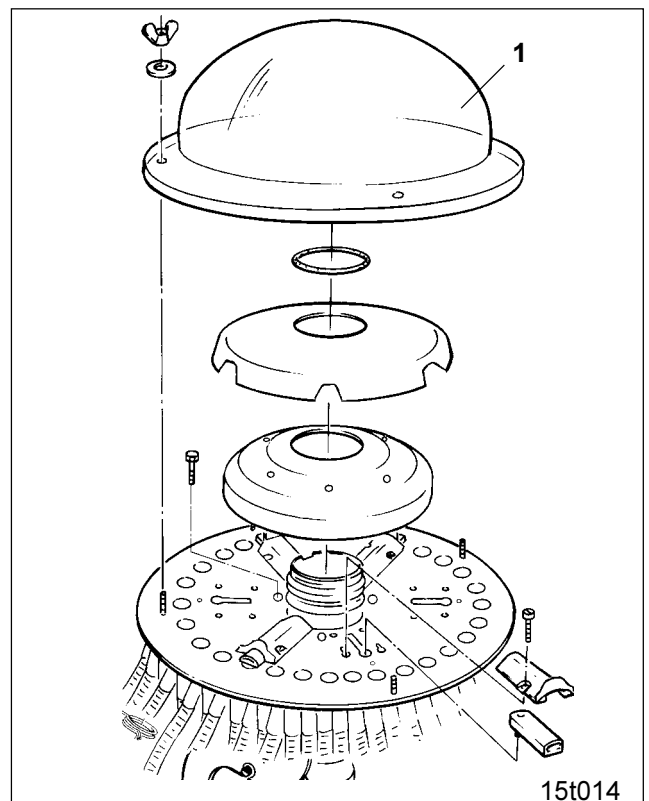

Fig. 40.6
- Remove outer hood (Fig. 40.6/1).